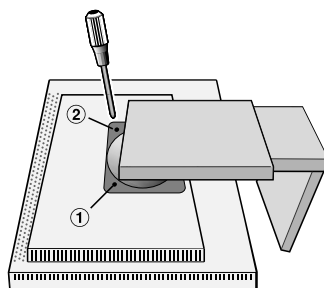
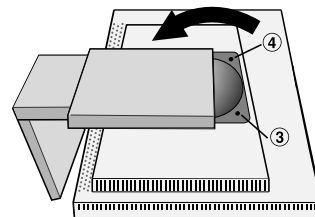

Figure S.2
Figure S.3
4. Remove the two top screws connecting the monitor to the stand (**Figure S.2**). Turn the stand to 180° counterclockwise (you will hear two clicks). Remove the screws from the bottom (**Figure S.3**) and lift off the stand. The monitor is now ready for mounting in an alternate manner.